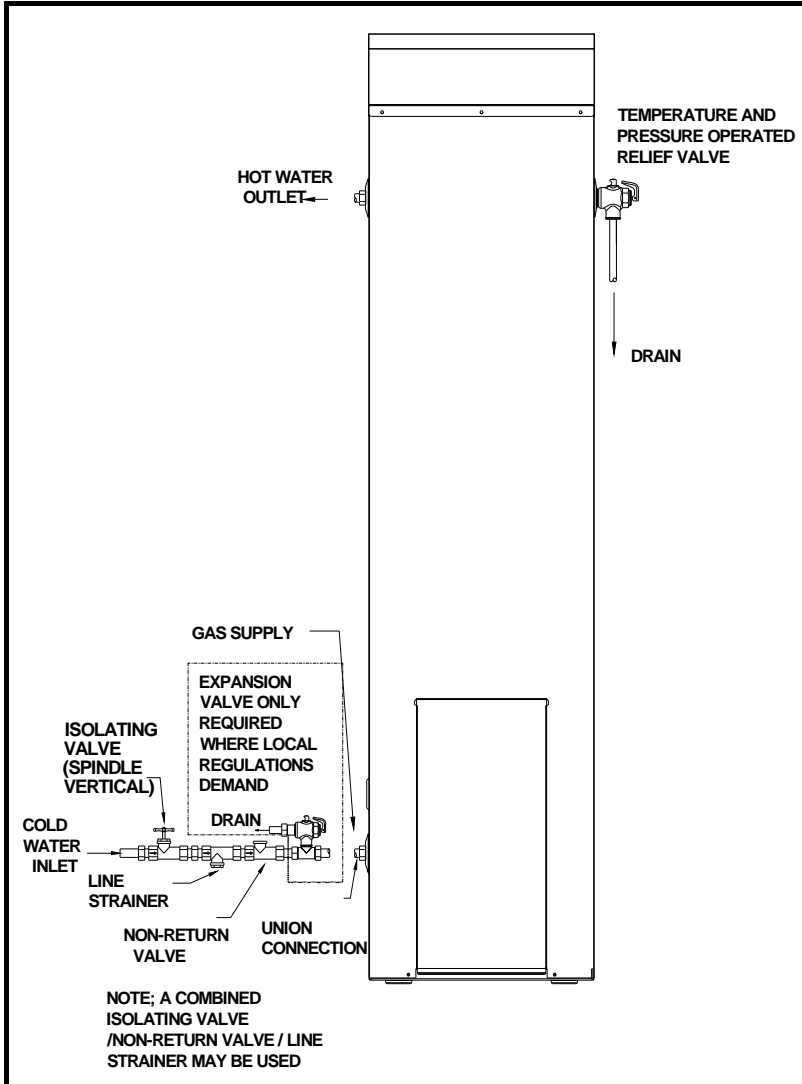

Figure 2: Hot & Cold Water Connections
An approved isolating valve, non-return valve, line strainer (optional but recommended) and union must be fitted between the supply main and the RP $\frac{3}{4}$ /20 socket in the water heater. All fittings must be approved by the relevant Authority. See Figure 2 for details.
**Note for S.A. and W.A.:** It is a state requirement that a pressure relief valve be fitted on the cold water supply line between the non-return valve and the water heater (see Figure 2).
A relief valve is supplied with a  $\frac{3}{4}$ " reducing bush to fit into the RP $\frac{3}{4}$ /20 tank socket. The hot water drain pipe and relief drain line to be installed as per figure 2. For the most economical operation of the water heater, it is recommended that all hot water lines are insulated.
Gas piping should be connected through the side of the case (see Figure 2). The plastic grommet must be installed around the pipe and clipped into the case. The gas control is fitted with a RC $\frac{1}{2}$ /15 socket. A union connection should be used. Pipe sizes should be in accordance with AG601.